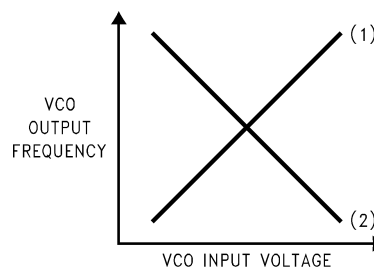

Figure 23. VCO Characteristics
(1) PHASE DETECTOR POLARITY, Depending upon VCO characteristics, R16 bit should be set accordingly: (see Figure 23) When VCO characteristics are positive like (1), R16 should be set HIGH; When VCO characteristics are negative like (2), R16 should be se LOW.
(2) Refer to POWERDOWN OPERATION.
(3) The I_{CP0} LOW current state = 1/4 × I_{CP0} HIGH current.